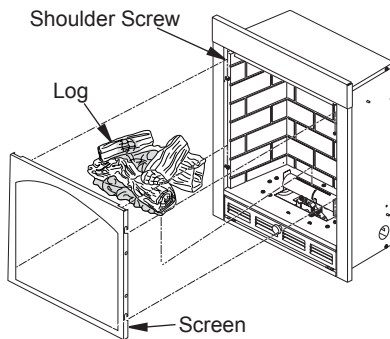

Figure 26 - Installing Log and Screen
1. Remove log packaging material and discard packaging. Gently place log over the burner (see Figure 26). Do not allow log to contact flame. If flame contacts log, soot will be created.